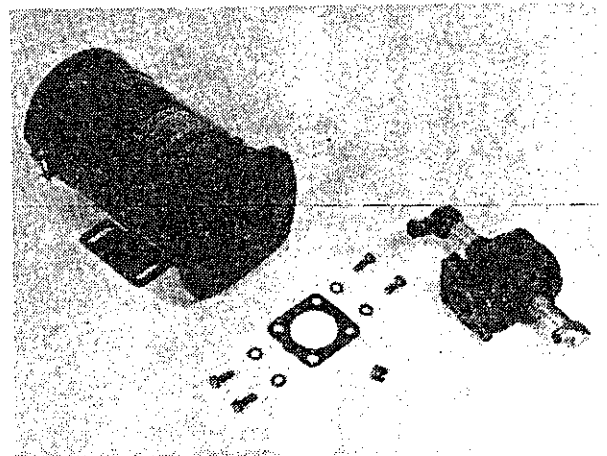

Figure 5-127
7. Clean the grease lubricant from the motor shaft end, pump shaft and coupling. Examine for excessive wear or damage. Rotate the pump shaft. Listen for any unusual bearing or gear noise and roughness. (Final disassembly is shown in Fig. 5-127).